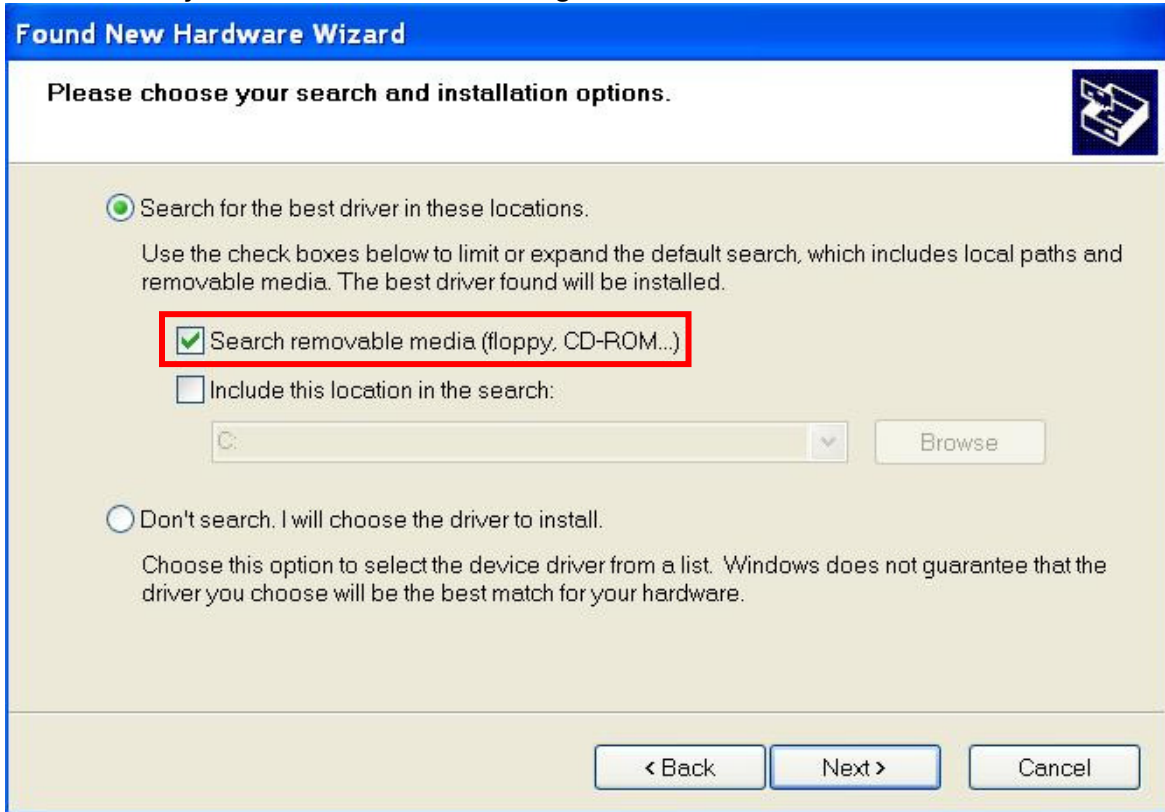

Figure 6
5. Click "Next" while the installation option dialog is shown, as figure 6.